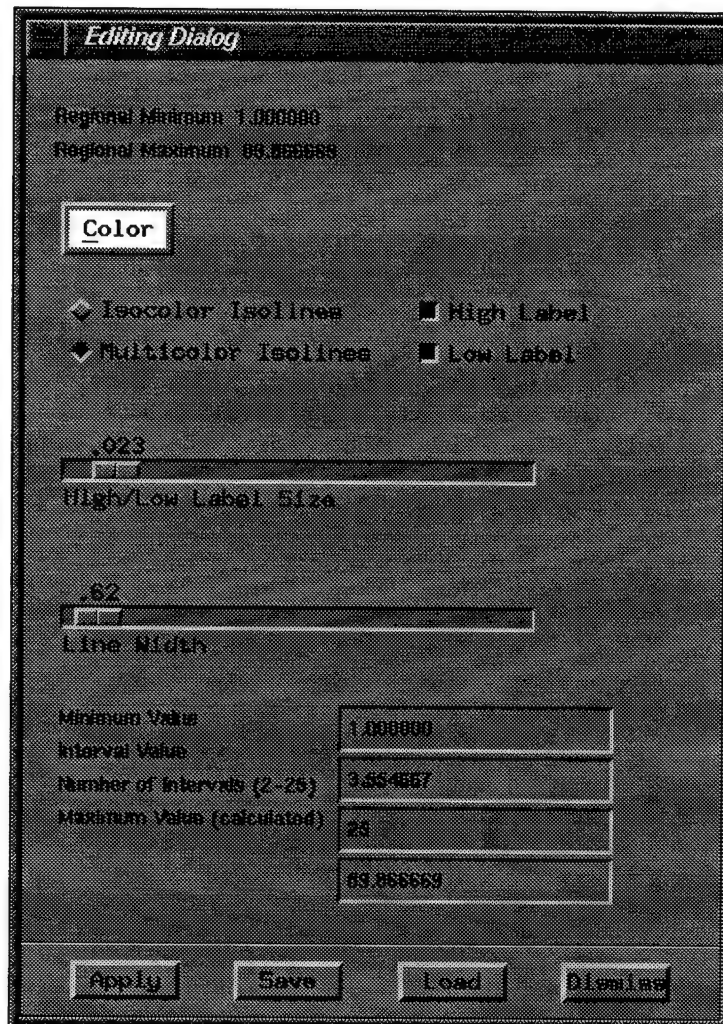

Figure 16 - The Editing Dialog window
- Plot Draw Options -** This button pops up an 'Editing Dialog' window (Figure 16) which permits changes to Isoline type and width. The minimum value of the data point (in this case bathymetry) to be plotted and contouring interval can also be set.